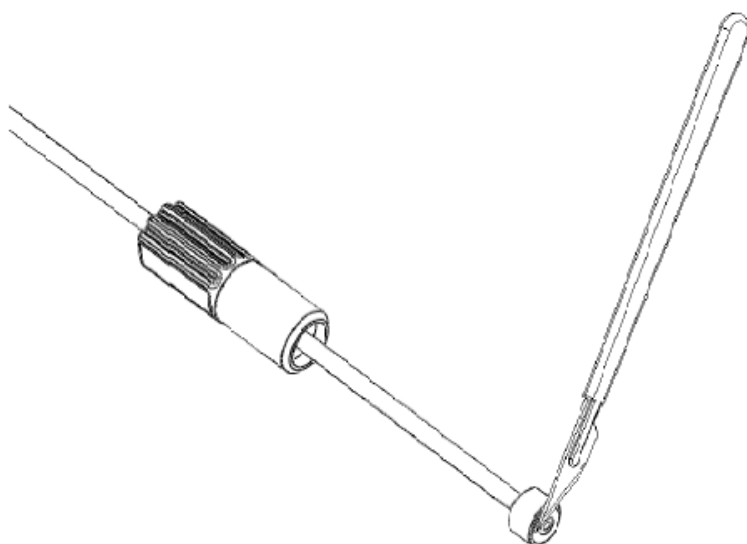

Figure O-13: Seating the Ferrule
6. Rotate the Ferrule around the tube 3 or 4 times to seat the Ferrule onto the tube correctly. With the scalpel, cut the excess tube off the cut (pointed) end of the tube flush with the PTFE face as possible ensuring that the PTFE face is not damaged (Figure O-13).